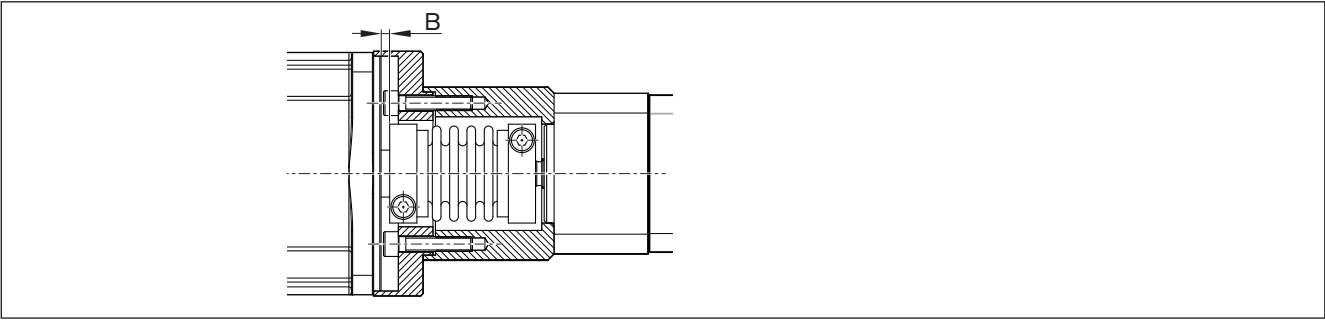

Fig. 17: Adjusting B dimensions
1. Push the coupling (1) onto the motor's drive journal (6). Observe the distance dimension (B) ➡ Fig. 17/table 13. Clamp the coupling onto the motor journal with the clamping screw (3) to M_{A1} .